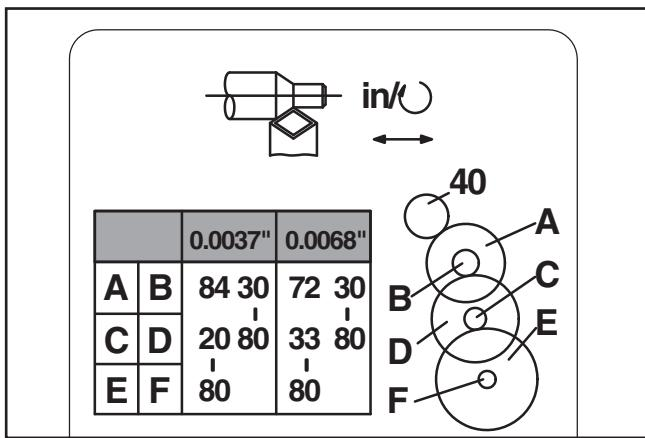

Figure 88. Feed chart.
B. Feed Rate Chart: Displays end gear settings for selected feed rate (see **Figure 88**).